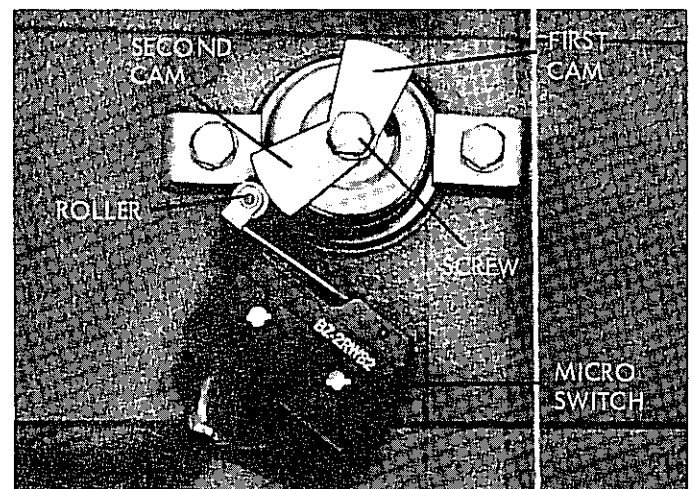

Figure 41. Micro Switch Roller and Motor Timing Cams Alignments for Models 14308 and 14508
4. Loosen screw (figure 41) and position center of cam on micro switch roller. Tighten screw.
6. Slightly loosen screw (figure 41) taking care not to upset position of first cam setting. Position center of second cam on micro switch roller. Tighten screw.